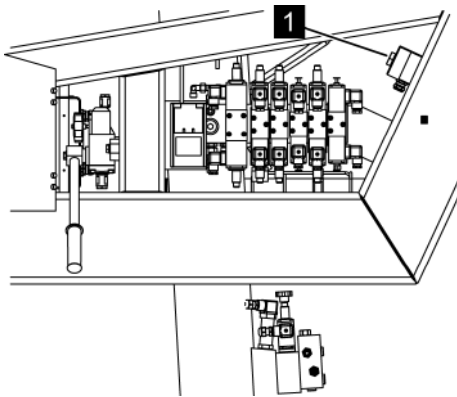

Fig. 135: Key switch for service operation
5. ➔ Switch on the key switch (Fig. 135/1) for the service operation.